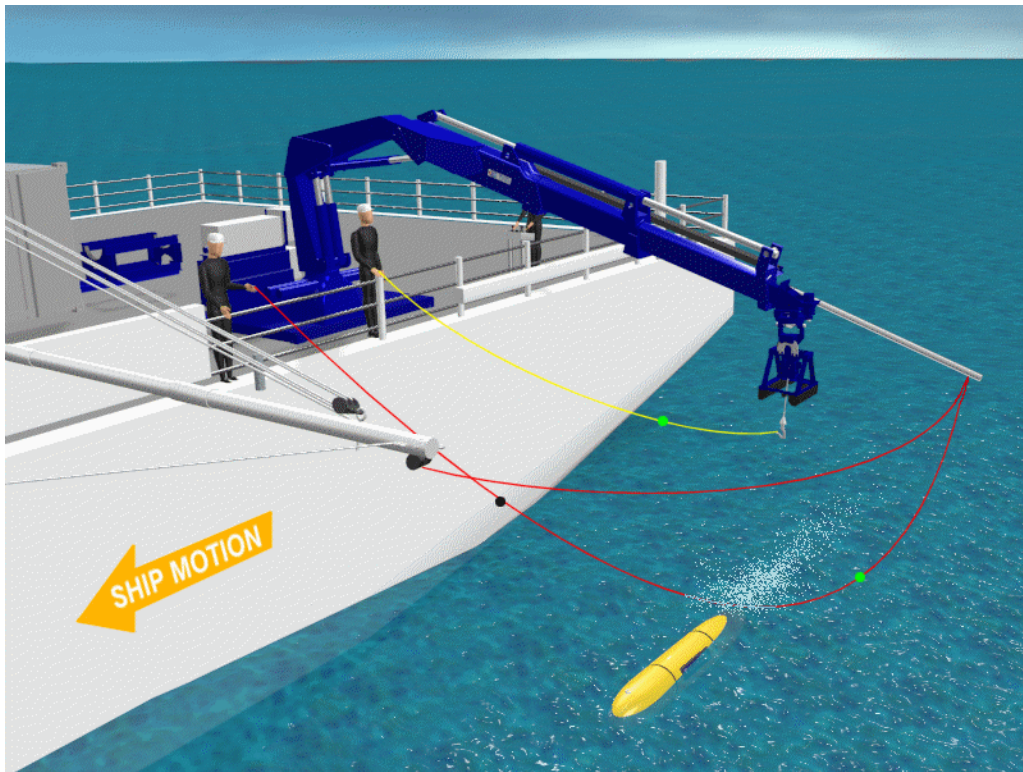

Figure 4-12
5. Swing the crane outboard and boom out to maximum extension as shown in Figure 4-12. Be careful to keep the tow line clear of obstructions. Adjust the length of the tow line so that the U-shape bight of line is just above the water creating a target for the AUV.